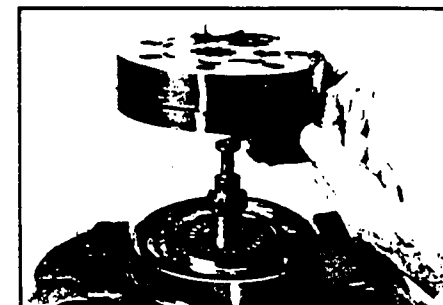
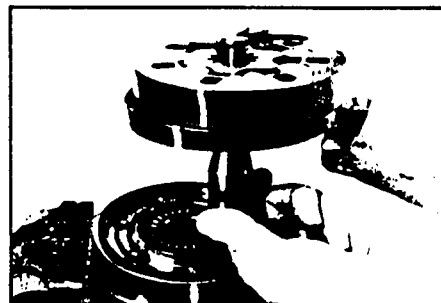

Figure 14
Figure 15
10. Remove rotor set (8) and wearplate (9) together to retain the rotor set in its assembled form, maintaining the same rotor vane (8C) to stator (8B) contact surfaces. SEE FIGURE 14. The drive link (10) may come away from the coupling shaft (12) with the rotor set, and wearplate. You may have to shift the rotor set on the wearplate to work the drive link out of the rotor (8A) and wearplate. SEE FIGURE 15, Page 15. Inspect the rotor set in its assembled form for nicks, scoring, or spalling on any surface and for broken or worn splines. If the rotor set component requires replacement, the complete rotor set must be replaced as it is a matched set. Inspect the wearplate for cracks, brinelling, or scoring. Discard seal ring (4) that is between the rotor set and wearplate.